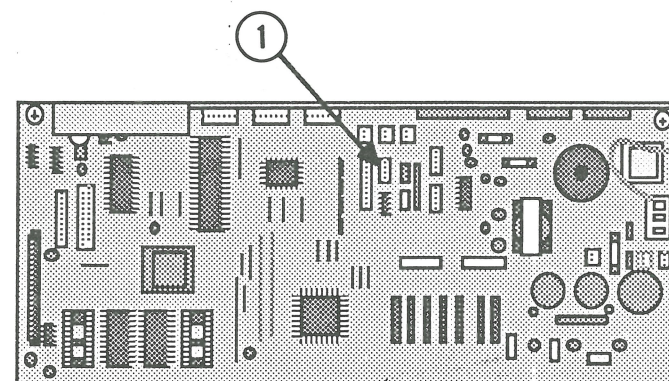

FIGURE 57
3. Disconnect the paper feed motor cable from main board connector CN6 (Figure 57, #1).